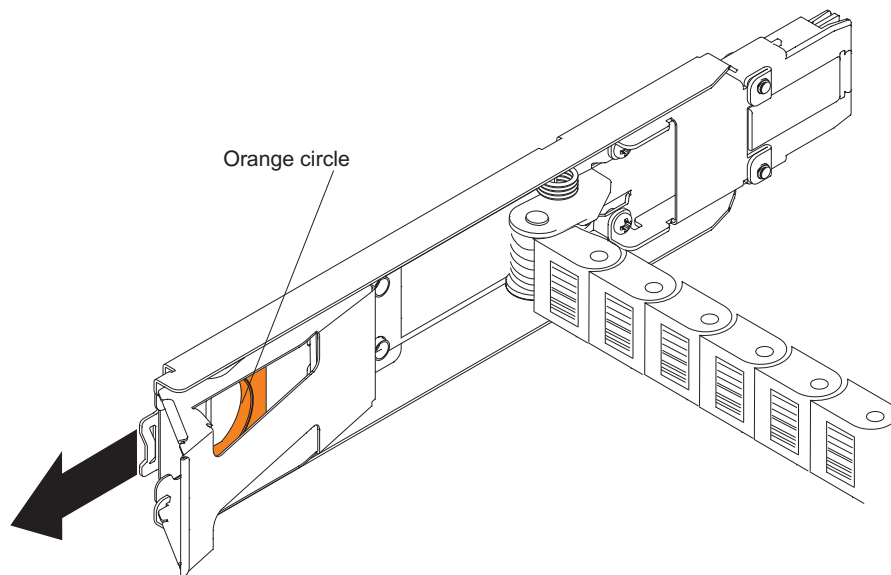

Figure 86. Vertical mounting bracket that connects to the midplane
- c. Disconnect the right cable chain mounting bracket from the midplane. Hold the orange handle (see Figure 86 on page 125), and pull the mounting bracket completely out of the storage expansion enclosure. If necessary, use a flashlight to see the orange handle.